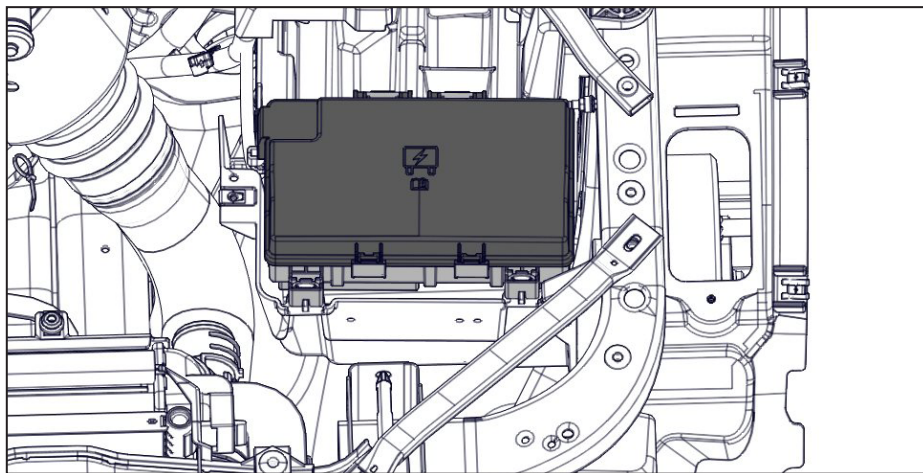

Figure 82 — Locate PDC
- ☐ Locate the Power Distribution Center (PDC) fuse box under hood of the vehicle (Figure 82).